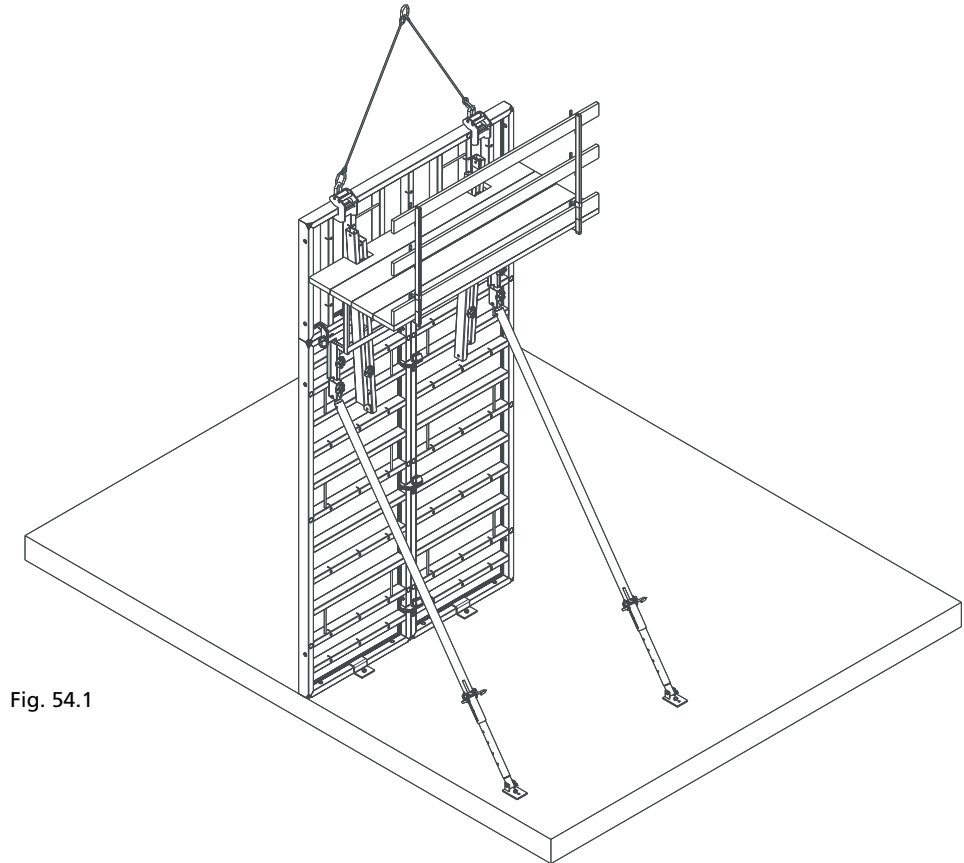

Fig. 54.1
**3.** Set the gang into position and immediately anchor the bracing foot plates and install and anchor the shoe plates (Fig. 54.1).